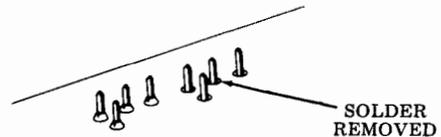

Fig. 14--Solder Removal
- (c) Remove solder from around terminal pins of keyswitch to be removed (Fig. 14).